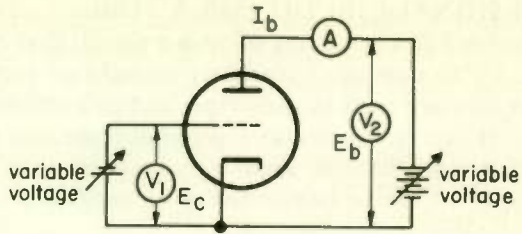

Fig. 2
2. Refer to Fig. 2. Ammeter A reads plate current I_b ; voltmeter V_1 reads grid voltage E_c ; and voltmeter V_2 reads plate voltage E_b . The circuit can be used to find the values of μ , r_p , and g_m . To calculate the value of μ , you first read the values on all three meters. We will assume that A is 10 mA, V_1 is 5 V, and V_2 is 150 V. First vary E_c and then vary E_b until the reading of A is once again at its original reading of 10 mA. Now read V_1 and V_2 . We will assume the new readings are $V_1 = 5.5$ V and $V_2 = 175$ V. The value of μ is _____.
5. Refer to Fig. 2. To calculate r_p you would first read (a) (A)/(A and V_2) (V_1 and V_2). Next, while making sure E_c was held constant, you would vary (b) _____. You would then read (c) _____ and (d) _____.
8. Refer to Fig. 2. Assume the readings of the three meters are $A = 12$ mA, $V_1 = 10$ V, and $V_2 = 175$ V. To calculate the transconductance g_m you would vary (a) _____ while holding E_b at its original 175 V. Then you would read (b) _____ and (c) _____. Assume the readings of (b) and (c) were 9.5 V and 11 mA. The value of the transconductance g_m is (d) _____ μ mhos.